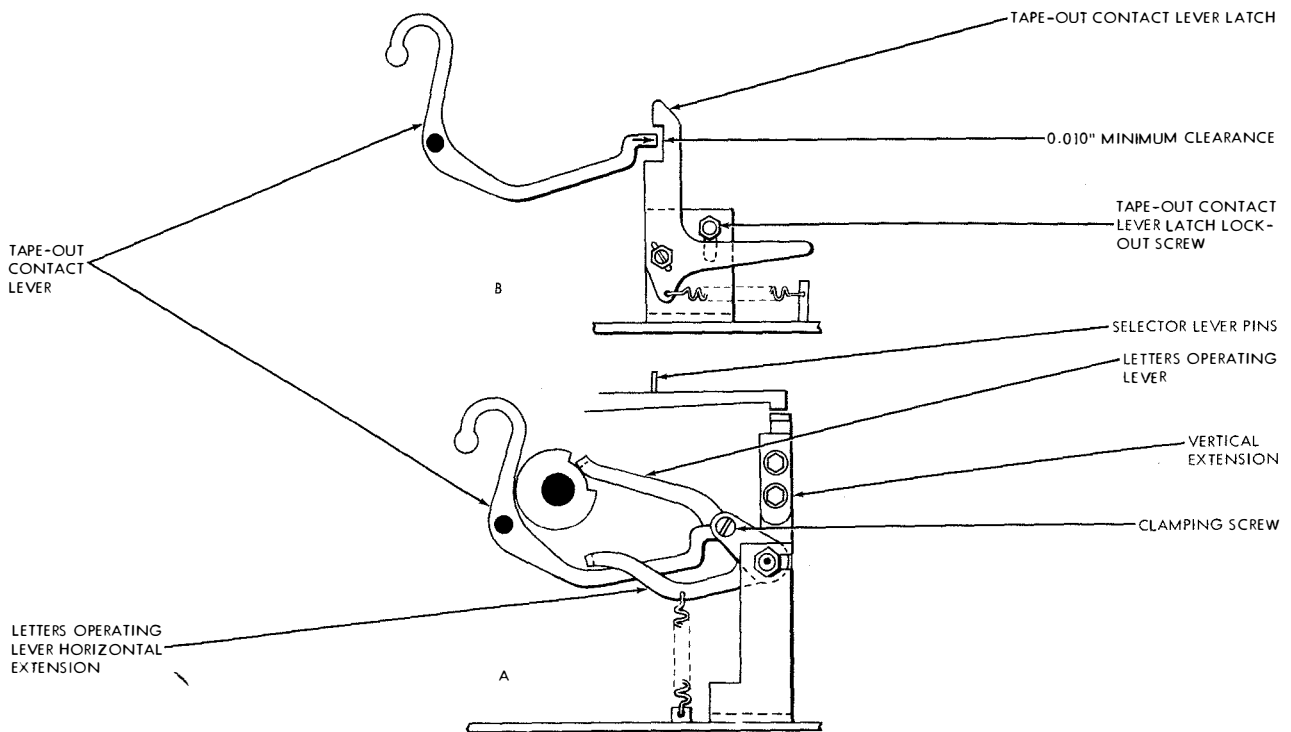

Figure 7-105. Letters Operating Lever Horizontal Extension
(44) **LETTERS OPERATING LEVER HORIZONTAL EXTENSION.** (See figure 7-105.)—Move the tape-out contact lever latch lockout screw upward so that it is ineffective. Set up the LETTERS combination and rotate the cam sleeve manually until the letters operating lever is resting on the low part of its cam. With the letters operating lever in this position, there should be 0.010-inch to 0.020-inch clearance between the latching surface of the tape-out contact lever latch and tape-out contact lever. To adjust, loosen the horizontal extension clamping screw and position the letters operating lever horizontal extension with respect